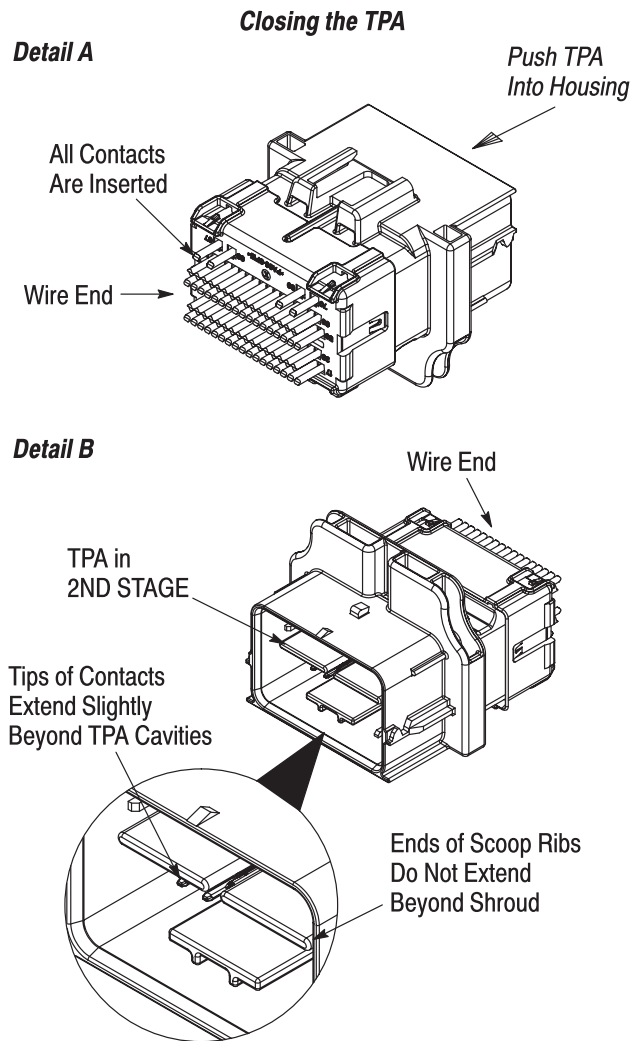

Figure 5
4. After all contacts are inserted, push the TPA into the housing until it stops—the TPA is in the 2ND STAGE. Make sure to avoid pushing the tips of the contacts. See Figure 5, Detail A.
The TPA is in the 2ND STAGE when the ends of the scoop ribs do not extend beyond the shroud, and the tips of the contacts extend approximately 3.7 [.146] from the cavities of the TPA. See Figure 5, Detail B.